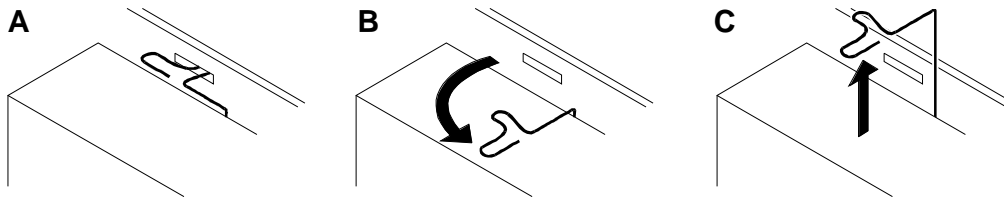

Figure 4-2. Unlocking Retaining Pin
6. As shown in Figure 4-2, Unlocking Retaining Pin, unlock each of two retaining pins (B) from the slots along the edge of the alarm board that hold the drive in place. Slide out both pins (C); this releases the drive from the board.